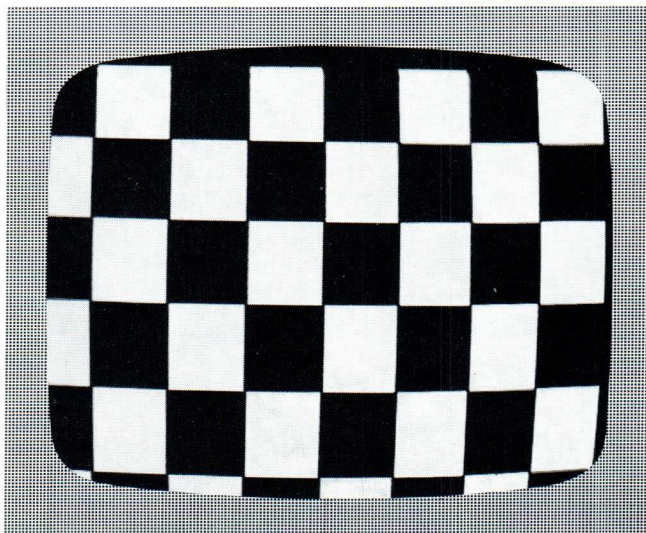

Fig. VII-3. Incorrect centring
5. ● Check for correct horizontal and vertical centring of the picture. Fig. VII-3 shows incorrect centring.